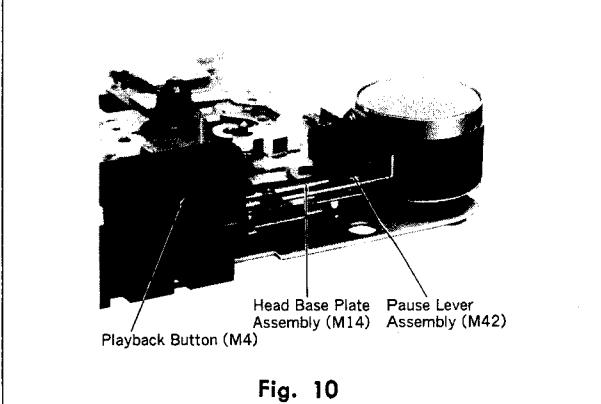

Fig. 10
- \* Be sure to mount the front panel assembly with the playback button (M4) pressed so that the head base plate assembly (M14) is prevented from running on the pause lever assembly (M42) (shown in fig. 10).